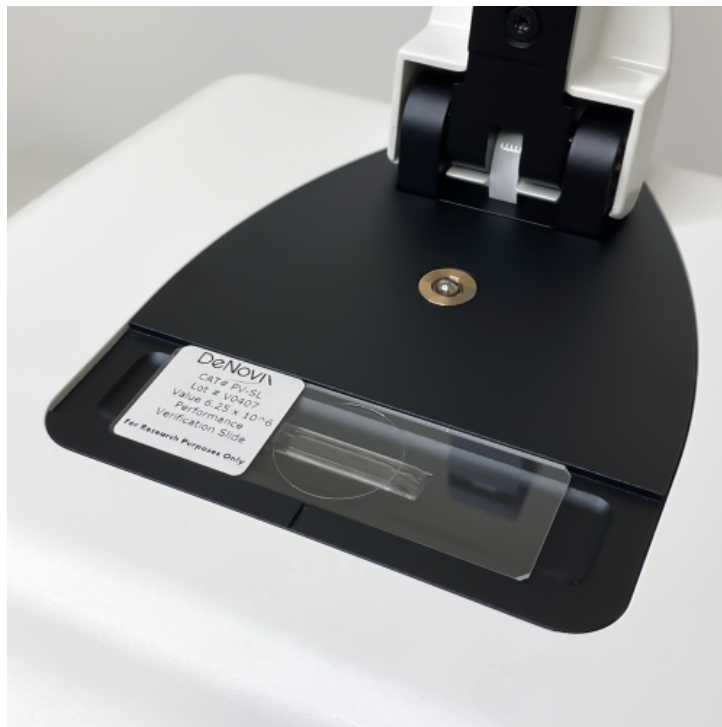

Figure 2. Performance Verification Slide on the CellDrop
- c. Raise the arm and place the Performance Verification Slide on the CellDrop with the cover slip up. Center the slide over the lower sample surface as shown in Figure 2, and carefully lower the arm.